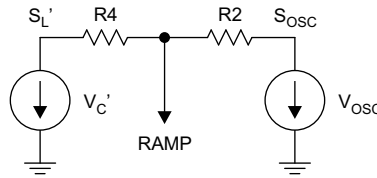

Figure 22. Slope Compensation Steps
- STEP 5: Generate the Ramp Equations: Using superposition, the circuit can be configured as shown in Figure 22.